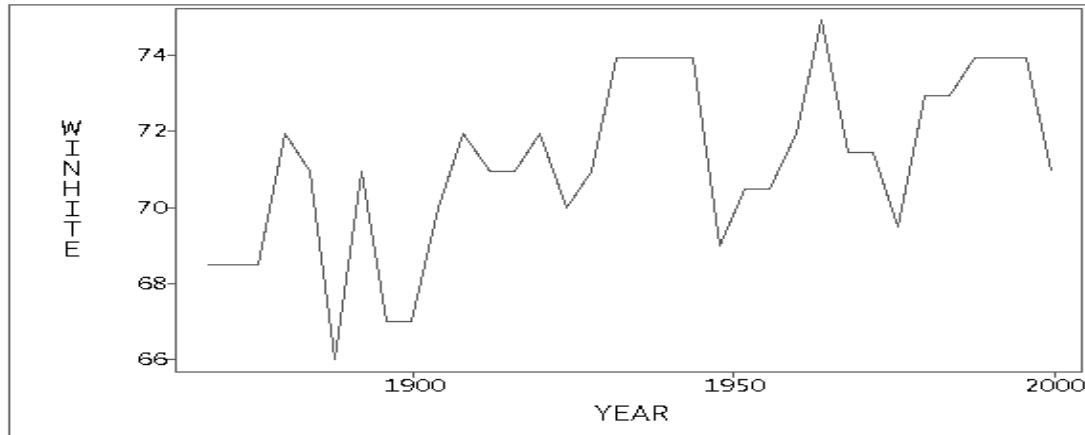

Figure 2: *Time series plot of election winner's heights.*
- Time Series Plot (or Line Plot): shows pattern of variation evolving over time. Figure 2